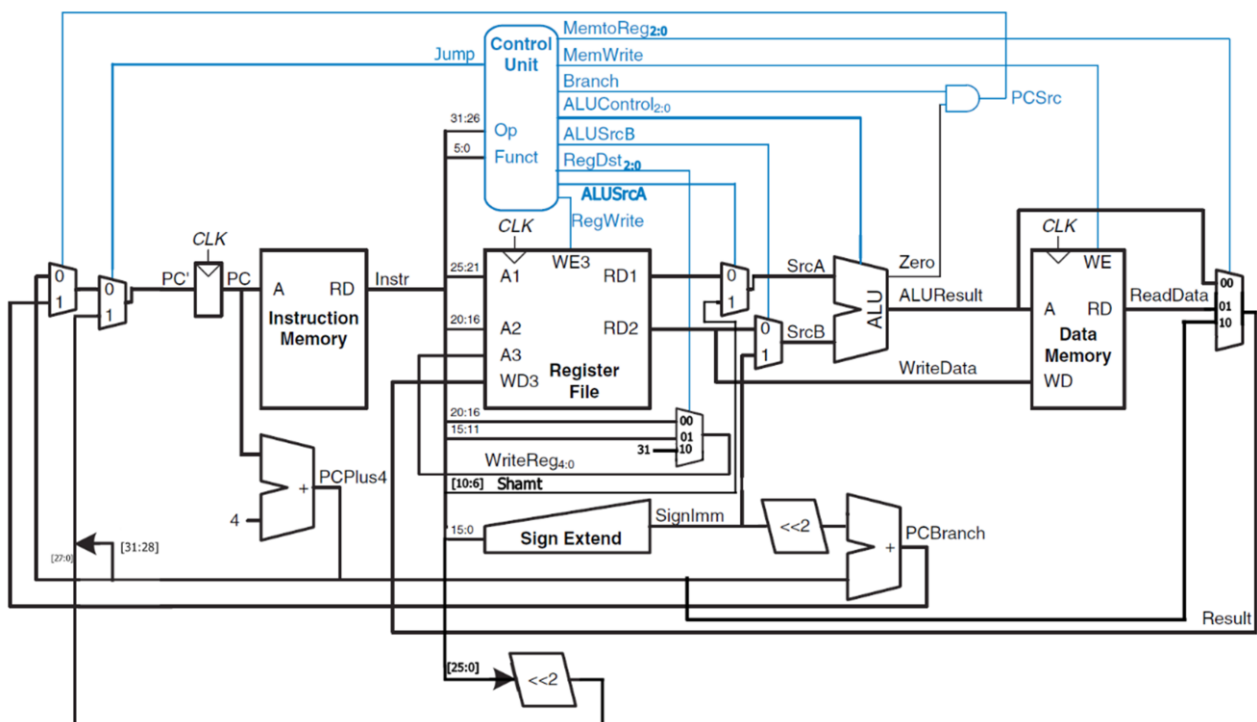

Figure 1: Datapath for Original12
c) Study the code and convince yourselves that the *datapath* module exactly corresponds to Figure 1 and *controller* module (including *maindec* and *aludec* modules) to Table 1 and Table 2. In the decoder tables, X means it is a “don’t care”. That is, it does not matter if it is 0 or 1. Although srl is an R-type instruction, in the Table 1, we added a new row for srl since its ALUSrcA bit is different than other R-type instructions.
- g) **[2 Points]** Make some observations on the architecture (see Figure 1).